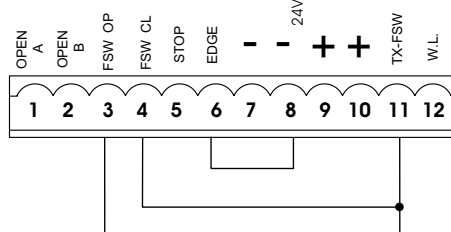

Fig. 5
N.B. If safety devices are not used, jumper connect the terminals as shown in fig. 5.
NB.: If no opening safety devices are connected, jumper connect inputs OP and -TX FSW (fig. 5).
NB.: If no closing safety devices are connected, jumper connect terminals CL and -TX FSW (fig. 5).
NB.: If edge safety devices are not connected, jumper connect the EDGE and - inputs. (fig. 5).